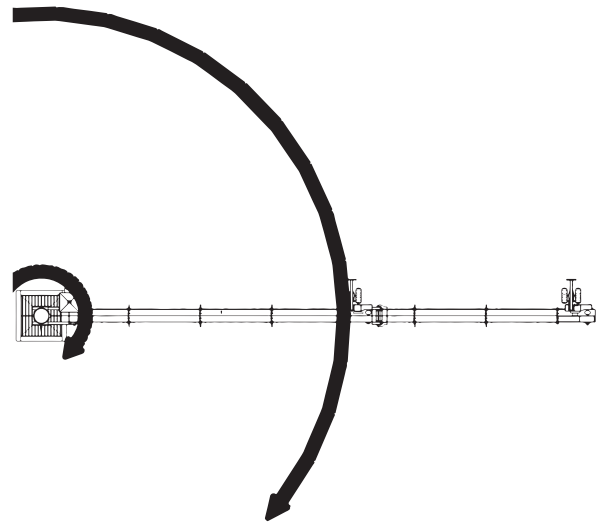

Figure 4-46: Determine Track Pathways Location
1. To determine the location of the track pathways it is recommended to tie a string to the center pivot post. Then use this string to measure the distance the casters are located from the Center Pivot Post. See Figure 4-46.
2. Using this string method, measure and mark the floor with paint or a marker where the track pathways will be installed. See Figure 4-46.